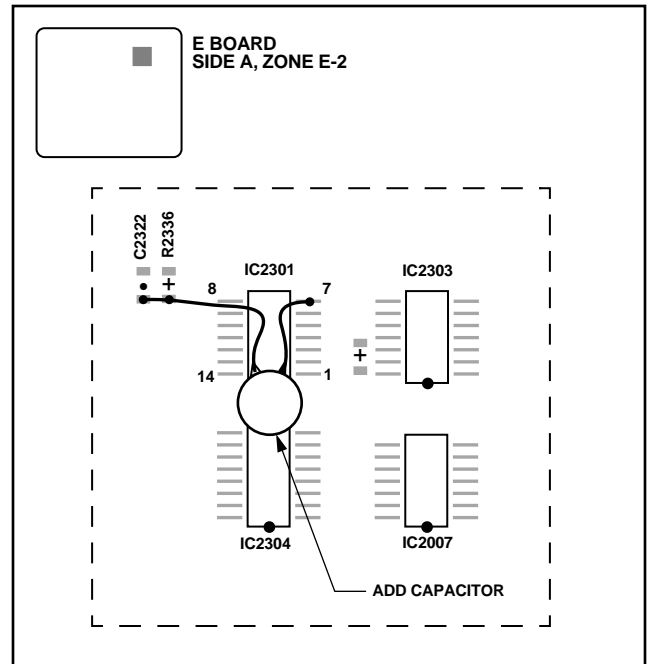

Figure 1
(See Figure 1.)
1. Bend the leads of the capacitor as shown in Figure 1.